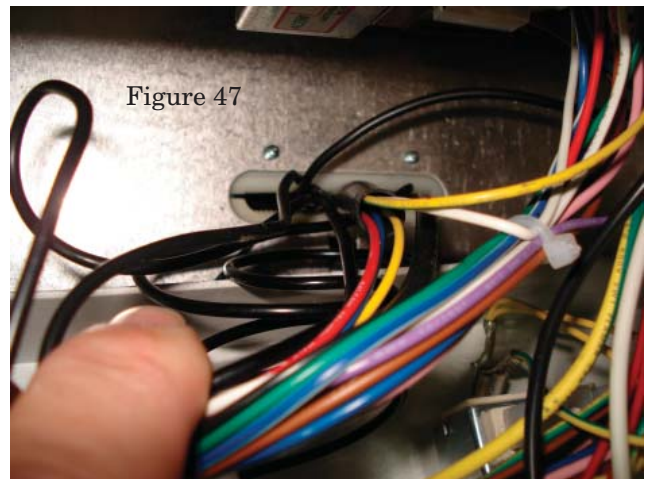

Figure 47
7. Carefully unroll the capillary tube of the new manual reset water temperature limit and feed the sensing bulb through the strain relief clamp. See Figure 47.